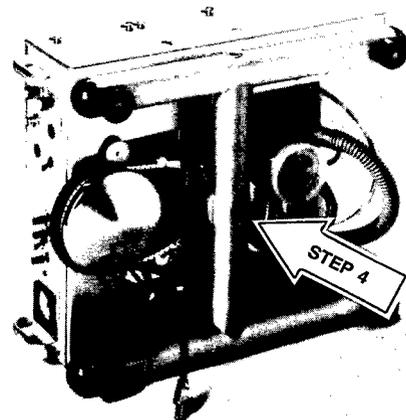

FIGURE 7
- Use the 3/4-inch open end wrench from the accessory kit to remove the capscrew that secures the frame base to the underside of the unit (Figure 7).